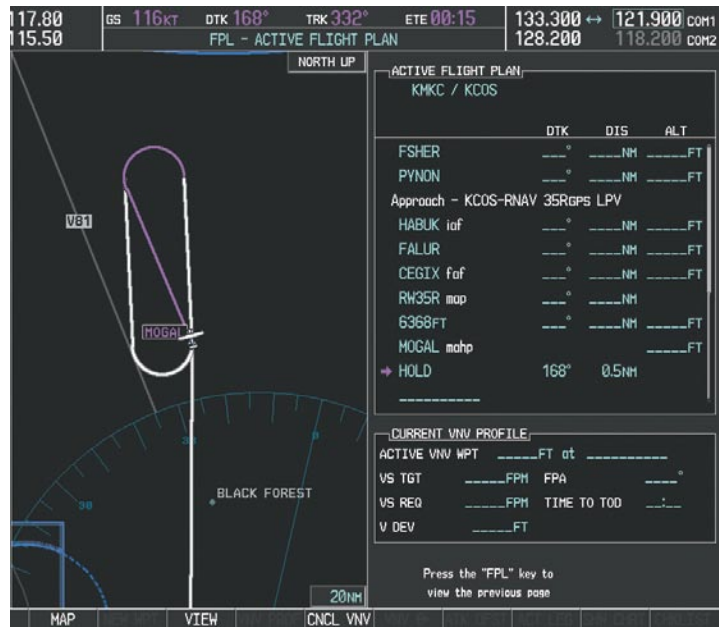

Figure 5-141 Establishing the Holding Pattern
26) The aircraft continues climbing to “AT or ABOVE” 10,000 feet at MOGAL. A holding pattern is established at the MAHP (MOGAL) as shown in Figure 5-141.